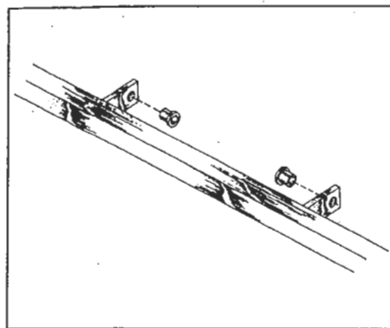

FIG. 1
- A) Position brass bushing through hole in the pair of attachment brackets for the mower. Be sure to position them so the flange is against the mowing head. **FIG. 1**